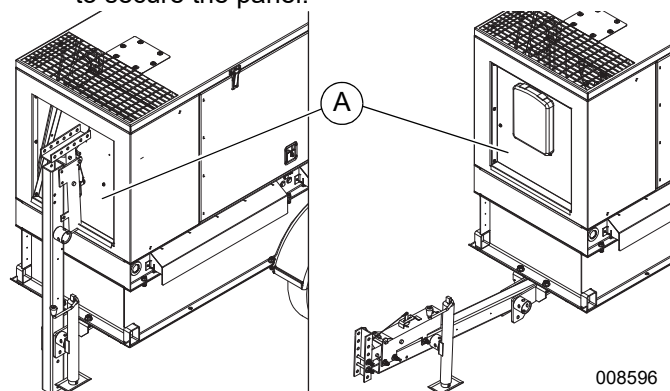

Figure 1-3. Lowering Trailer Tongue
6. See Figure 1-3 Remove the mounting hardware from the front hood actuator clearance hole panel (A). Tilt the panel forward. Reinstall the hardware to secure the panel.